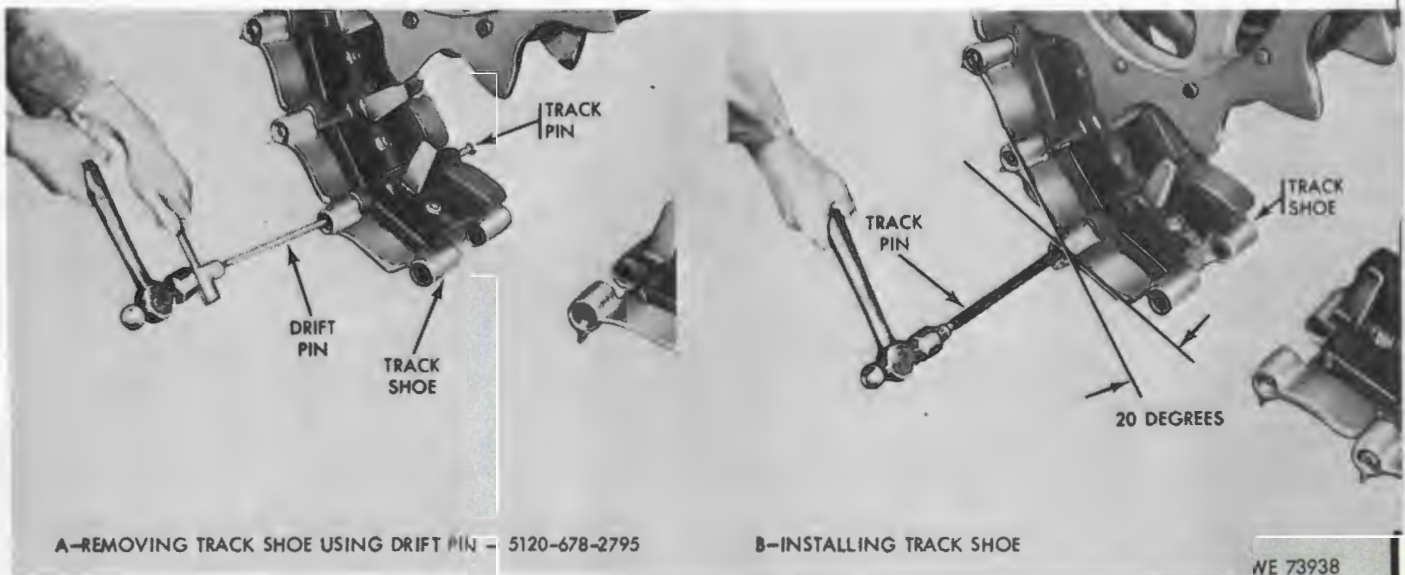

Figure 3-7. Removing and installing track shoe.
(2) Removing track shoes (A, fig 3-7).
- (f) Connect track ((4) following).
- (3) *Installing track shoe* (B, fig 3-7).
- (a) Disconnect track ((1) preceding).